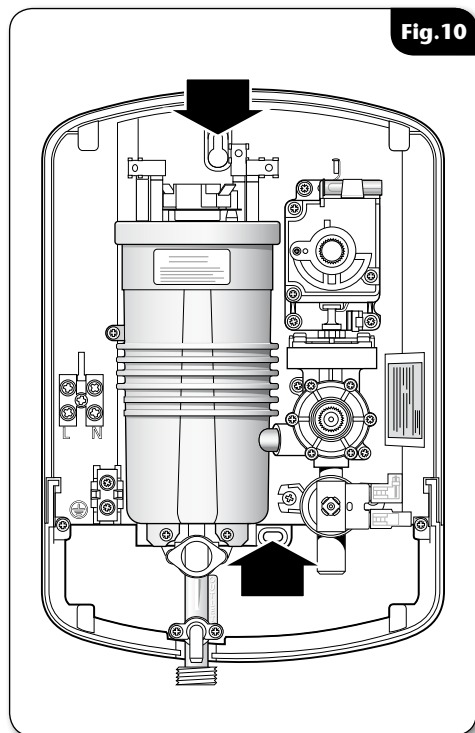

Fig. 10
- Use the backplate as a template making sure it is level and mark the two fixing holes (fig. 10).